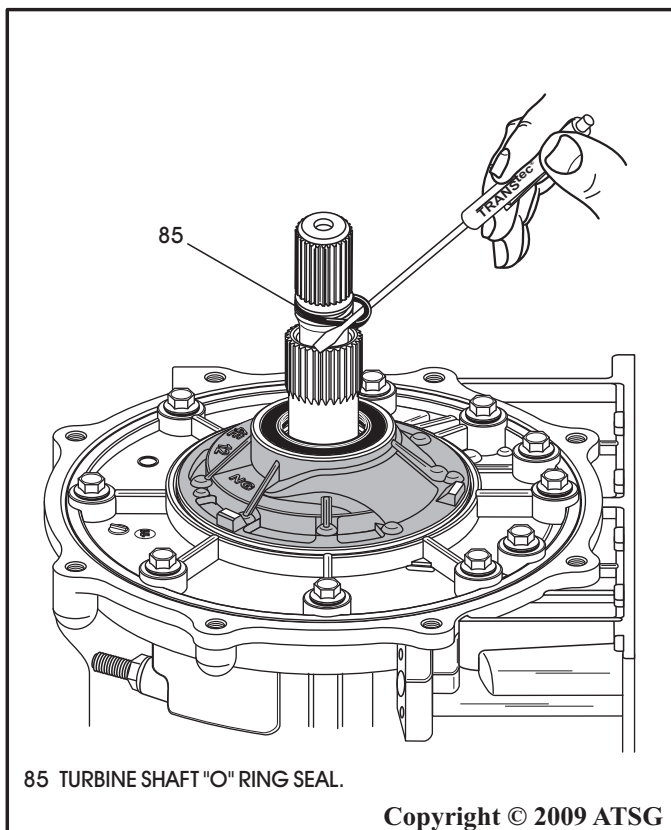

Figure 41
14. Remove and discard the turbine shaft "O" ring seal from turbine shaft, as shown in Figure 41.